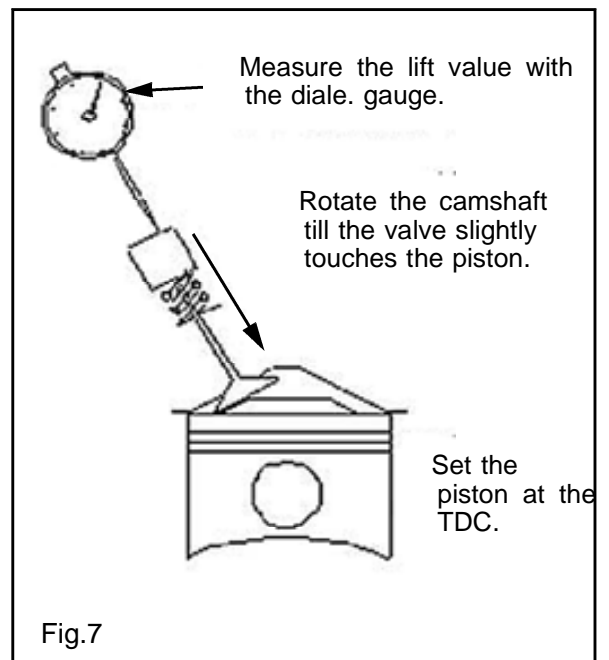

Fig.7
- (1) Set the dial gauge to the intake side lifter. (See Fig.7)
- (2) Rotate the crankshaft, and set the piston at the top dead center.
- (3) Rotate the V-Cam slowly. Note the lift value on the dial gauge when you feel a response.